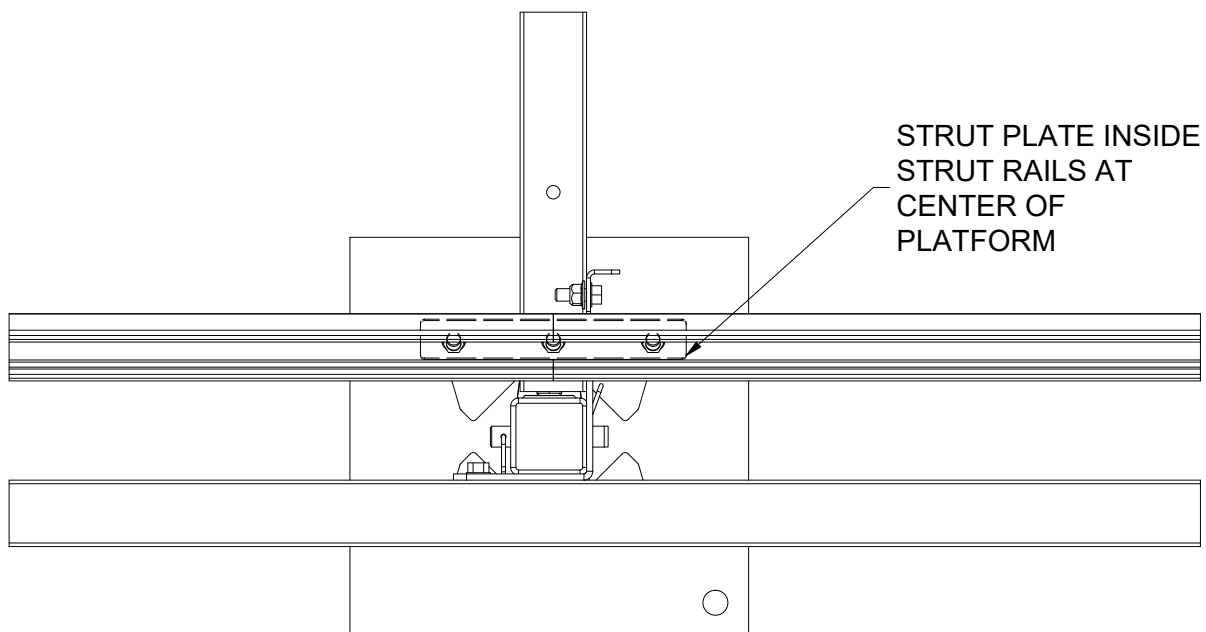

Figure 17: Strut Rail Assembly at Center of Platform
3. Take another Strut Rail and insert one end into the loosely connected Splice Plate at the center Strong Back. Push the two rails together so they are flush. See *Figure 17* below.